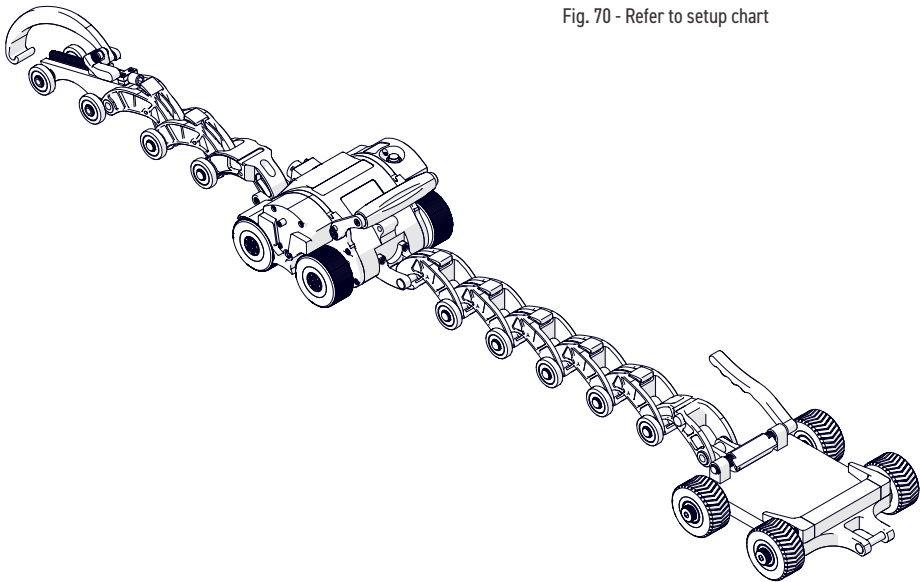

Fig. 71 - Assemble configuration
2. On a flat surface, connect the appropriate number of QuickLinks (Fig. 71) as indicated on the setup chart (see “SKOOT•X Chain Configuration Setup Chart” on page 88).